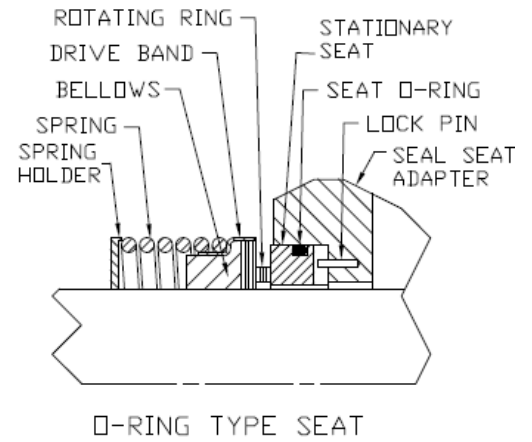

Figure 3. Type 2 Single Spring Mechanical Seal O-Ring Seat Type
- B. **(Figures 3, 5, 7, 8, 9, 10 and Sealol)** Stationary assembly, seat (1) and O-ring (2), is removed with spacer (014) from power rotor shaft. Remove stationary assembly from spacer (014).